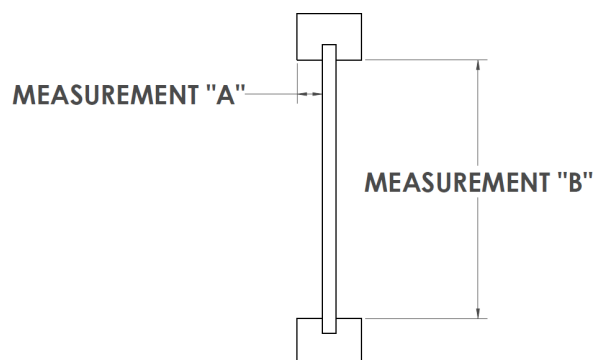

Figure 187: *TJI Joist Measurements*
4. Measure the distance between the side of the TJI joist OSB board and the edge of the flange (measurement A in Figure 187).
5. Measure the interior distance between the top and bottom of the TJI joist flanges (measurement B in Figure 187).